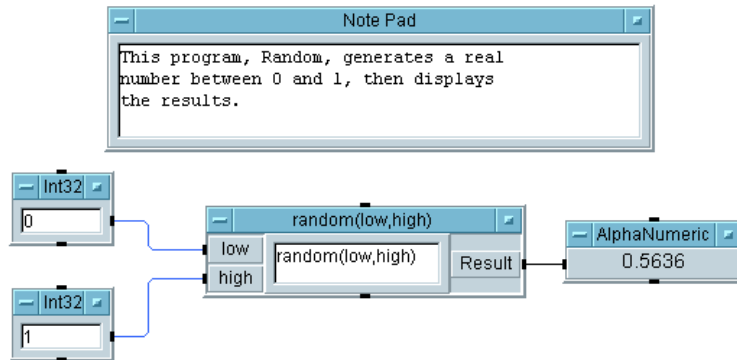

Figure 2-32. The Random Program
- Click the **Run** button on the tool bar, and you will see a random number displayed as shown in Figure 2-32.